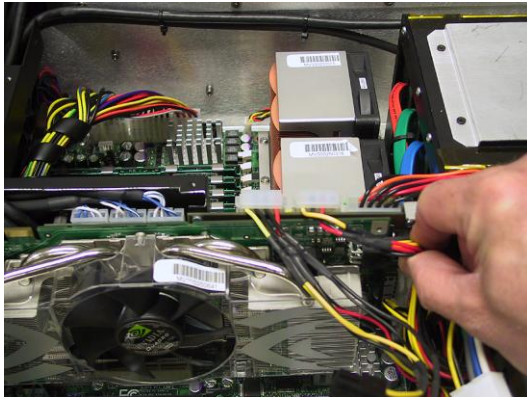

Figure 5-47
- 5) Some PCI Express cards may have an auxiliary power connector. If so, disconnect it as shown in Figure 5-47.